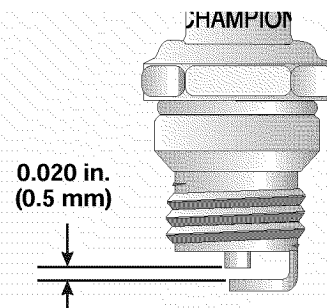

Fig. 35
3. Replace a cracked, fouled or dirty spark plug. Set the air gap at **0.020 in. (0.5 mm)** using a feeler gauge (Fig. 35).